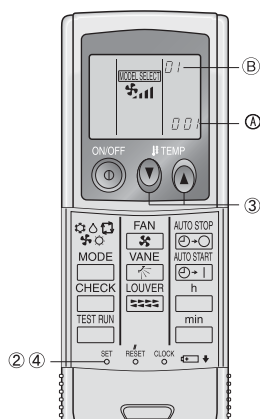

Fig. 6-8
2) Automatic fan speed setting (For IR wireless remote controller) (Fig. 6-8)